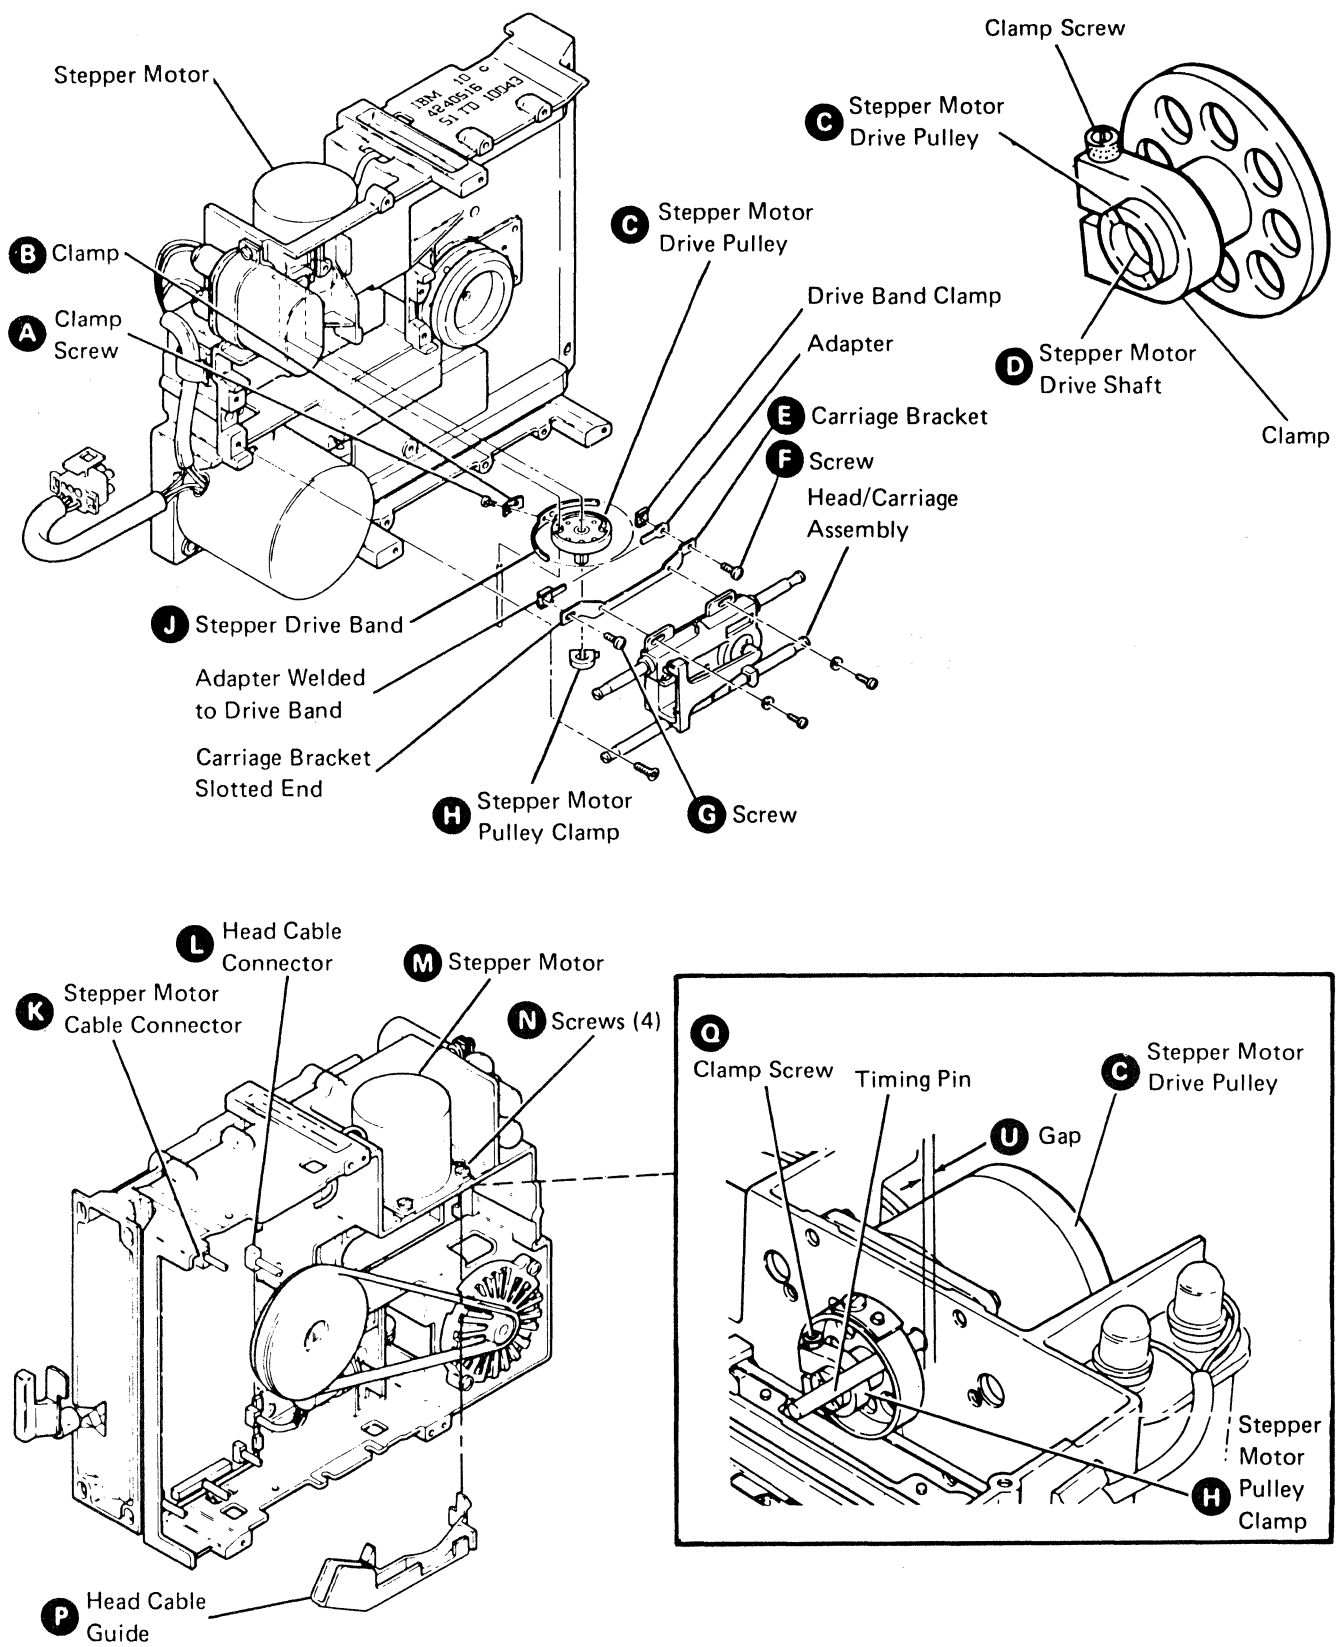

Figure E-32. Stepper Motor Removal and Replacement
E.3.5.1 Stepper Motor Removal (Figure E-32)
E.3.5.2 Stepper Motor Replacement (Figure E-32)